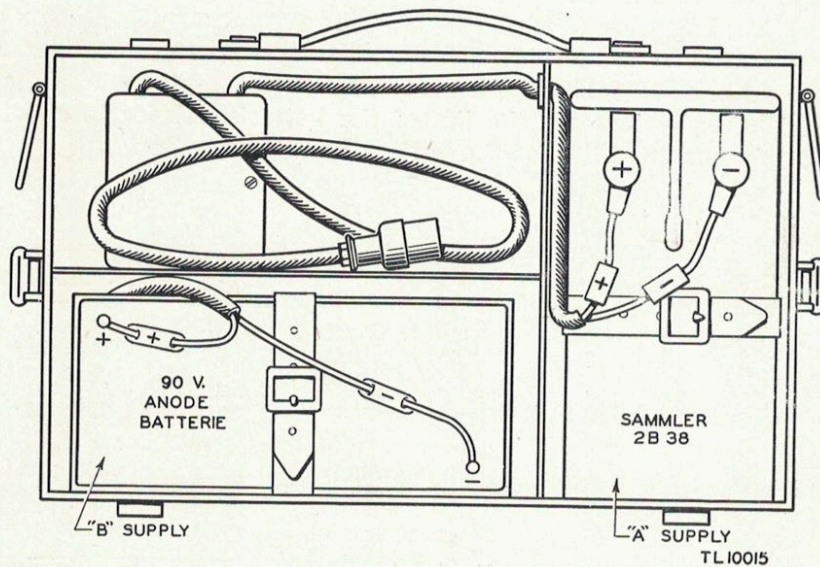

Figure 2. Accessories case of German radio set Torn. E. b.
a. Battery Installation. If the proper German batteries are available, they should be connected in the accessories case (fig. 1①). The storage cell, German type 2B 38, will fit into the compartment provided. The **Anode Batterie** (B battery) also fits into a compartment in the lower side of the case (fig. 2).
c. Accessories Case. (1) The container is divided into three compartments, as shown in figure 2. Components consist of a 2-volt lead storage cell, a 90-volt plate battery, two headsets, and the battery cable. The batteries are held firmly in place by leather straps.